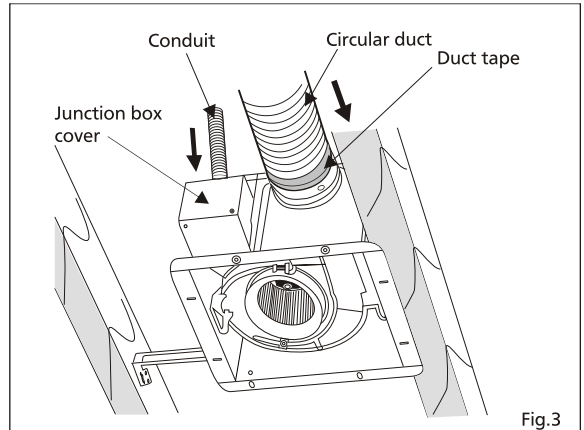

Fig.3
4. Install a circular duct and secure it with clamps or wire ties and seal it with mastic or approved duct tape. (Fig.3)